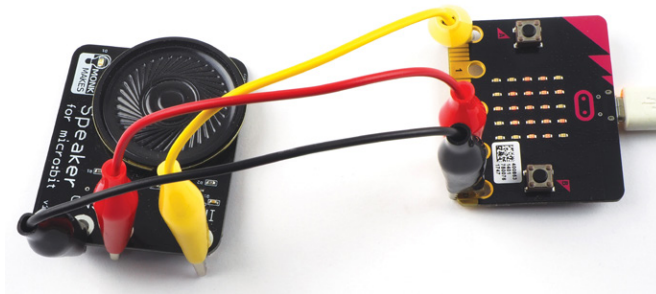

Figure 7-4: A talking clock
Sometimes the Mad Scientist is so busy with test tubes and chemicals and alarming plumes of smoke that they can't check the time. And then they forget to eat! That's when a talking clock comes in handy. This project (Figure 7-4) announces the time every hour, or whenever you press button A.
3. Connect a speaker to the micro:bit with one alligator clip on pin 0 and the other alligator clip on the pin marked IN on the speaker. Use the other two clips to provide power to the speaker, as shown in Figure 7-4.